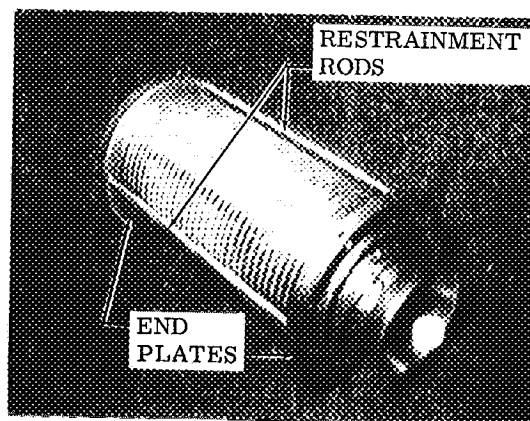

Figure 2
5. Look for axial restraint rods on the heater (see figure 2), and carefully check, using an accurate machinist's square, if these rods are perpendicular to the heater end plates (even one or two degrees of variation from the perpendicular can result in heater leaks and wear).